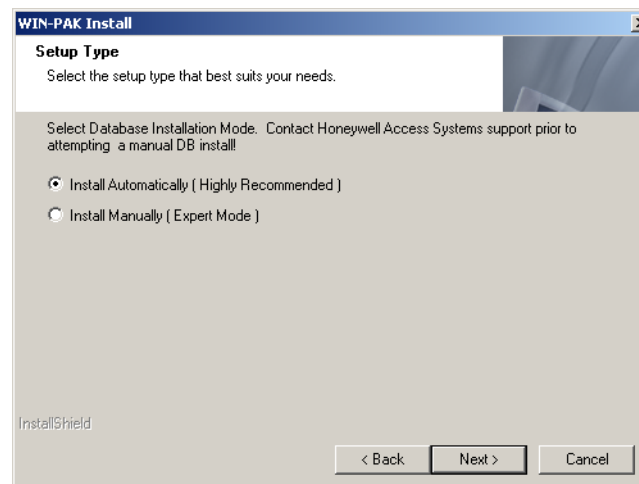

Figure 2-11 Setup Type
8. Click **OK**. Figure 2-11 appears.